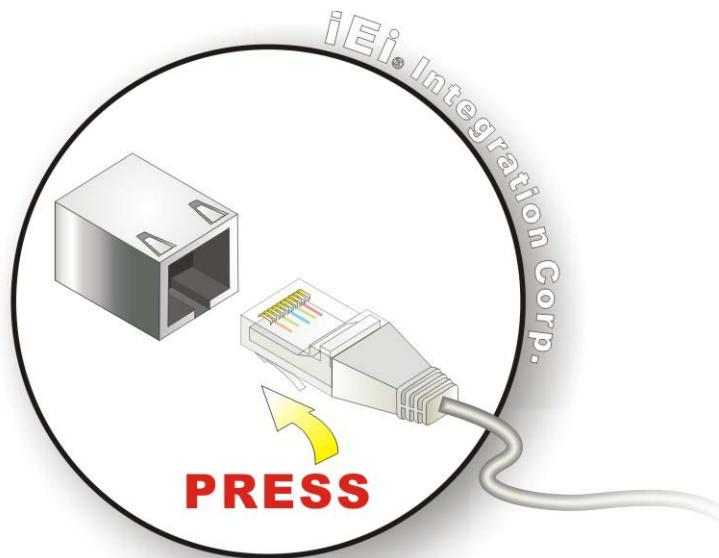

Figure 4-6: LAN Connection
Step 2: Align the connectors. Align the RJ-45 connector on the LAN cable with one of the RJ-45 connectors on the KINO-SE-i2. See Figure 4-6.